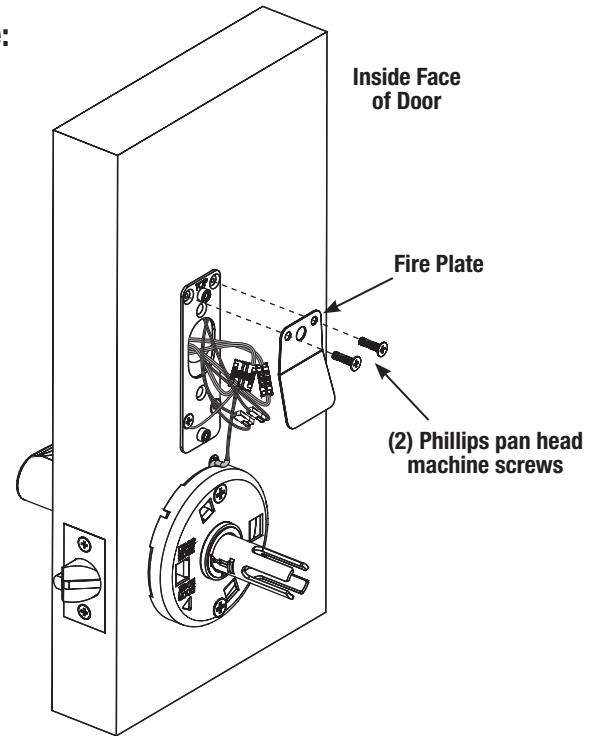

Fig. 12
- b. Secure fire plate and mounting plate to door using the (2) remaining Phillips flat head machine screws provided (Fig 12). Ensure wires are properly routed under flap of fire plate.